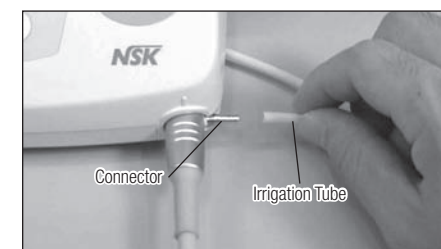

Fig. 36
- 3) Remove the Irrigation Tube from connector. (Fig. 36)